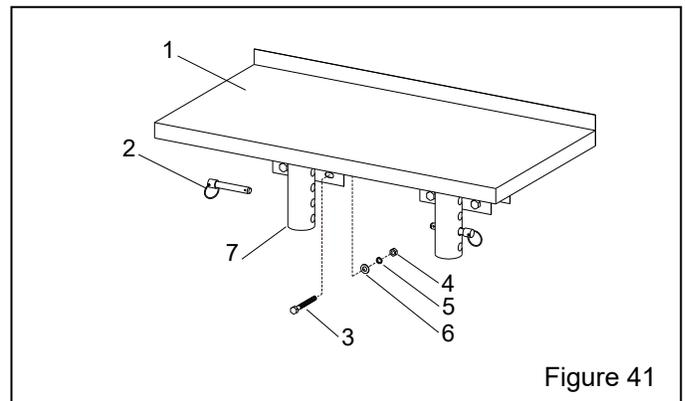

Figure 41
**Foot-Shelf Assembly – Figure 41**